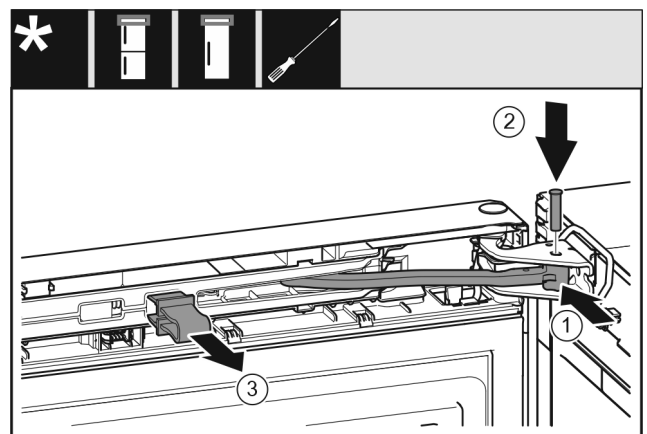

Fig. 20
- Turn the hinge in the bearing bracket. Fig. 20 (1)
- Insert the bolt in the bearing bracket and hinge. Make sure that the latching lug is sitting correctly in the groove. Fig. 20 (2)
- Remove the locking device. Fig. 20 (3)